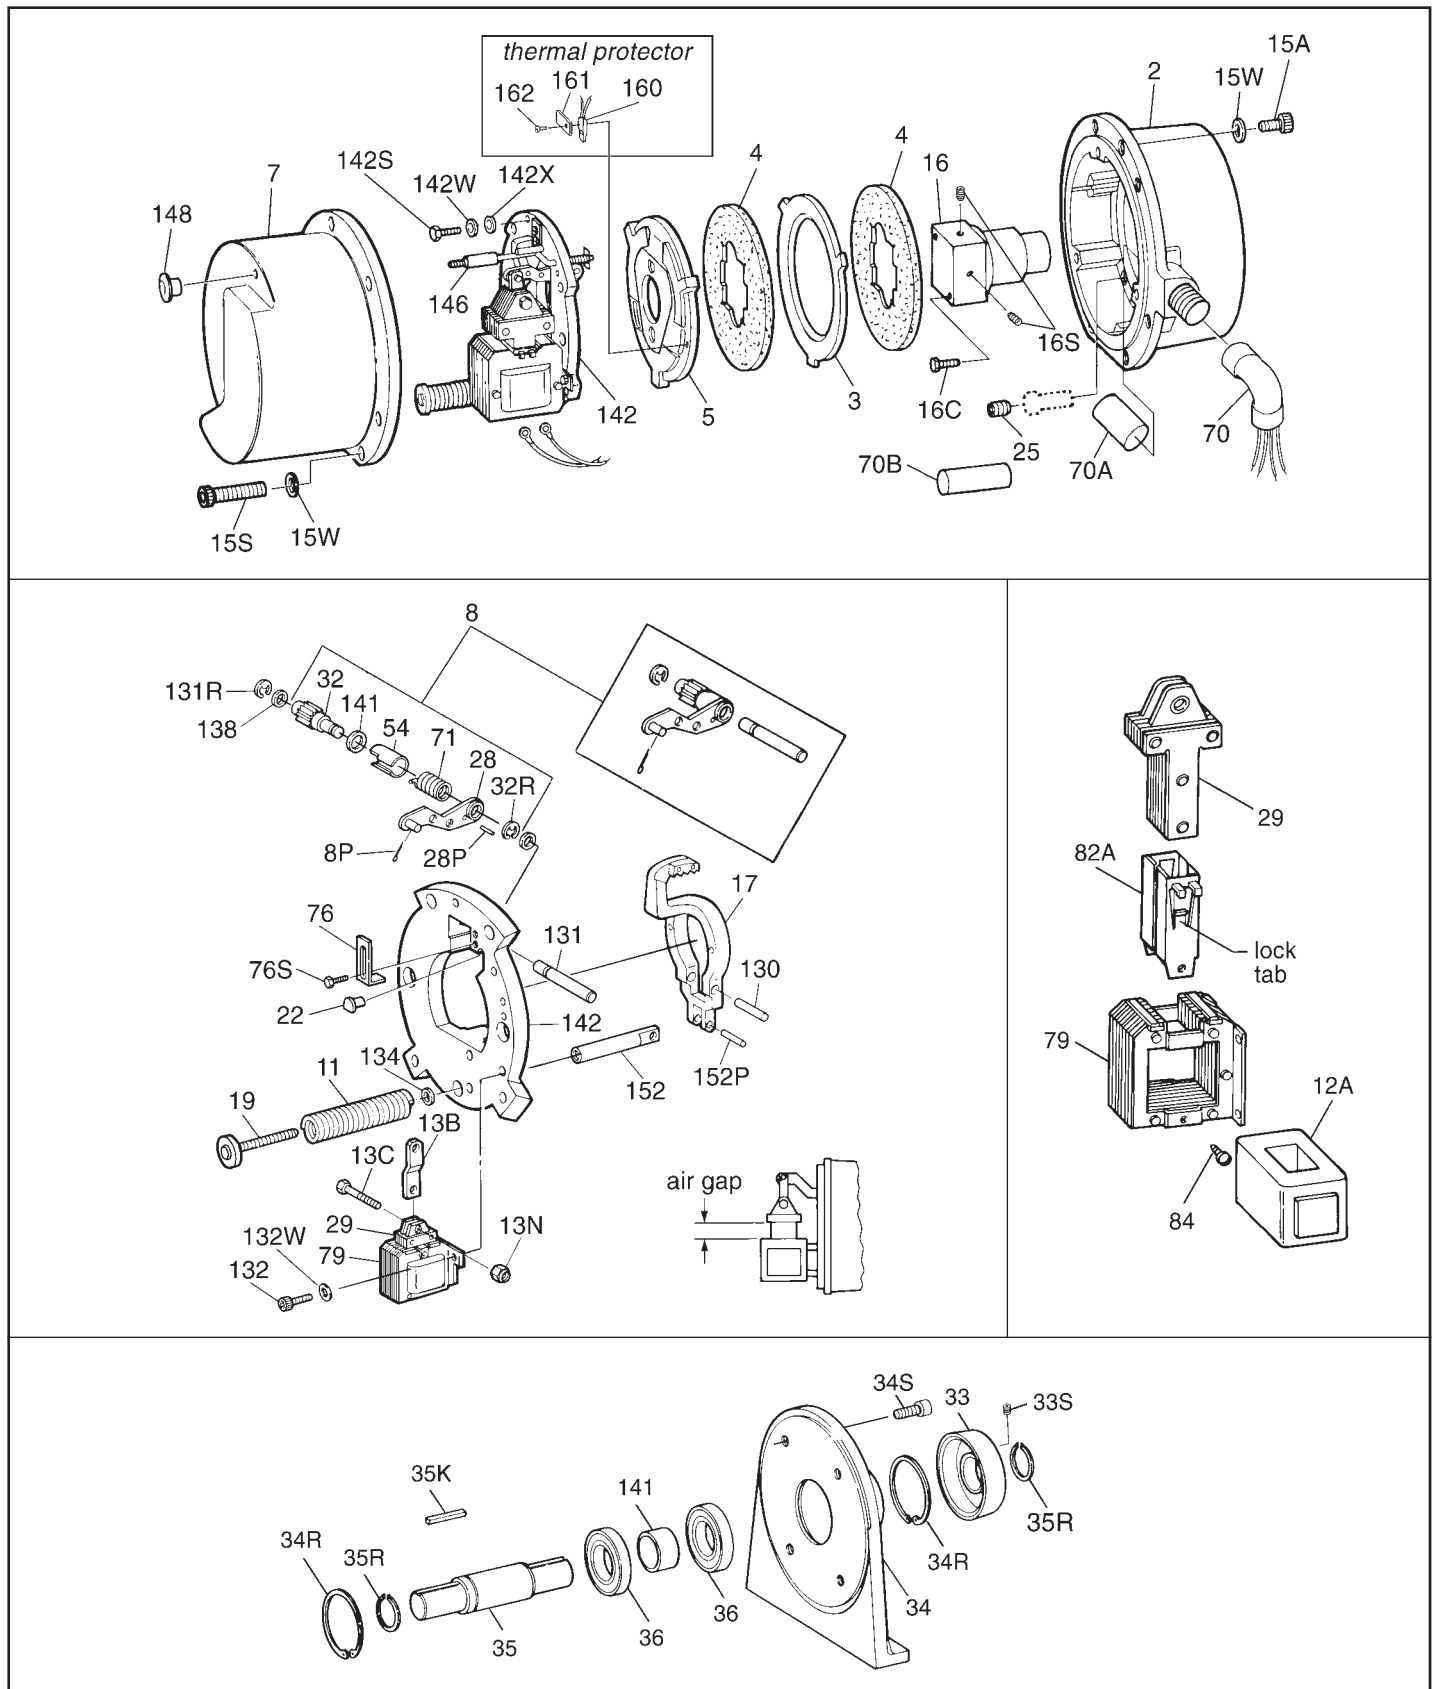

Figure 1
**Installation** (see Figure 1)
**Note:** For proper operation in the horizontal position, mount brake so that solenoid plunger (29) is above the frame (79) when installed. The brake may be mounted, if specifically modified, vertically above or vertically below the motor. A one disc brake vertically below is not modified. If motor is to be ceiling or horizontally wall mounted, brake must be oriented so the solenoid plunger is above frame when motor is installed.
### Method I - Motor Mounted Brake (see Figure 1)